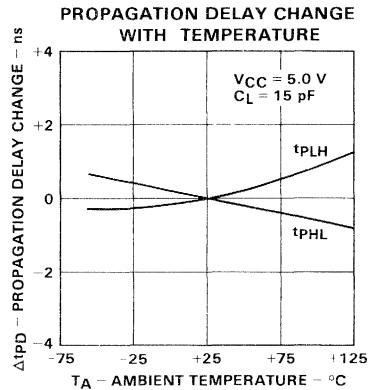

Fig. 8.
0.5 ns with V_{CC} for the military temperature and voltage ranges. (See *Figures 8* and *9*).